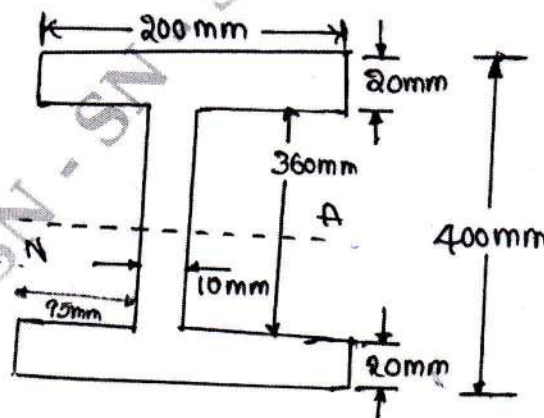

Fig. Q5 (c)
c. A rolled steel joist of I section has the dimensions as shown in Fig. Q5 (c). This beam of I section carries a u.d.l of 40 N/mm run on a span of 10 m. Calculate the maximum stress produced due to bending.